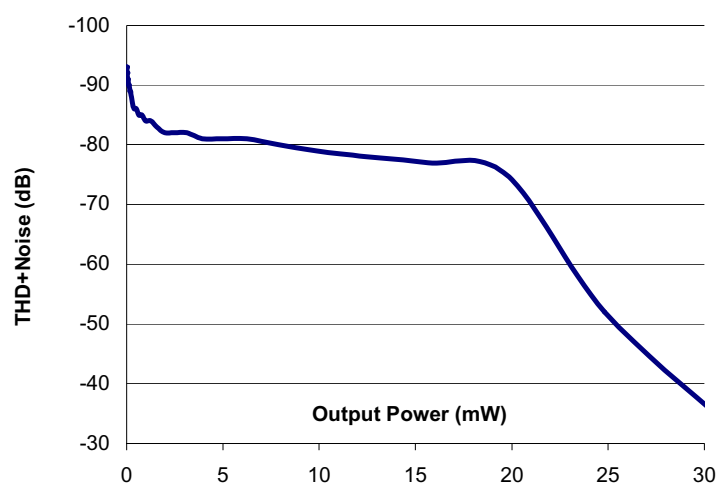

Figure 3 Distortion Versus Power on Headphone Outputs, using 32 $\Omega$  Load and AVDD = HPVDD = 3.3V
1. Harmonic distortion on the headphone output decreases with output power – see Figure 3.